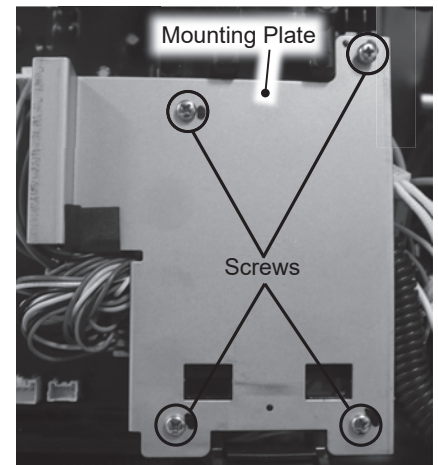

Figure 19 - Mounting plate screw removal.
- 7 Locate the four (4) screws securing the metal mounting plate. See Figure 19. Use a Phillips screwdriver to remove the screws. Place screws and mounting plate aside in a safe place for reinstallation.
**36** Reinstall the metal mounting plate using the four (4) screws removed in **Step 7**. See Figure 19.